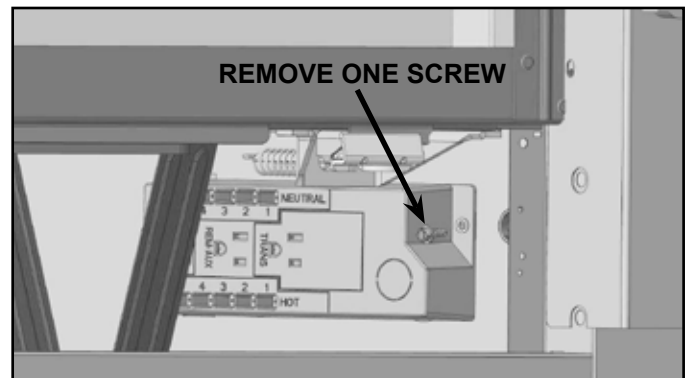

Figure 8.3 Junction Box Detail - COSMO32-IFT
**COSMO32-IFT:** The junction box is secured to the fireplace outer wrap. Remove one screw. See Figure 8.3.